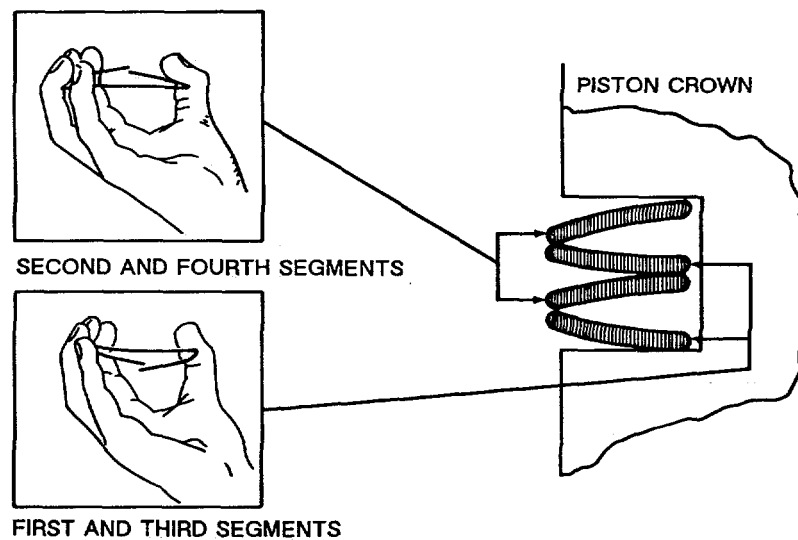

Figure 5-22. Piston Ring Installation.
- (9) Install laminated rings. The procedure for fitting the laminated type is different because the ring has four separate segments. These may be fitted by hand in the following sequence with the piston crown uppermost:
- (a) Install the first segment to the piston (5) so that when held horizontally between the thumb and fingers and radially compressed, the ring ends point downward (see Figure 5-22). Place this ring on the bottom face of the fourth ring groove with the gap over the piston pin bore.
- (d) Install the fourth segment as in (b) above with the gap immediately above the gap of the second segment. If all the segments have been fitted correctly, they will be positioned as shown Figure 5-22. The gaps of the remaining rings should be staggered alternately along the piston pin axis.
- (10) Liberally lubricate the rings (1) in their grooves and ensure that they move freely. This does not apply to the laminated type in the fourth groove, which if correctly fitted should not move freely due to the outward pressure of the top and bottom segments on the ring groove walls. When all the rings have been fitted, they should be as shown in Figure 5-22.